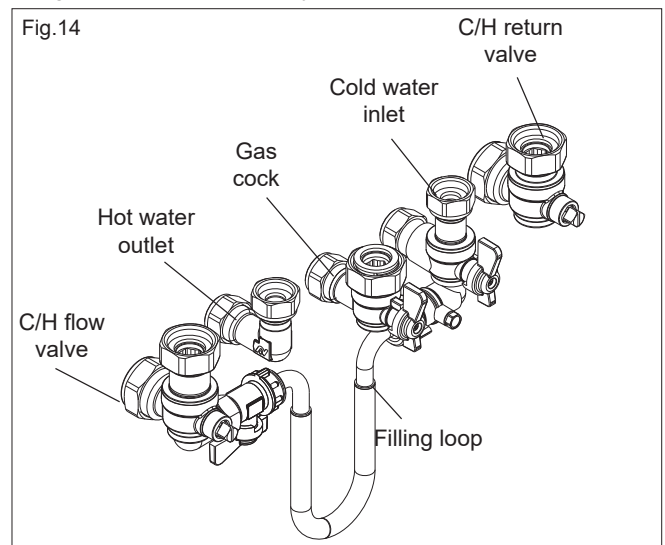

Fig. 14
4.3 CONNECTING THE GAS & WATER (FIG. 14)